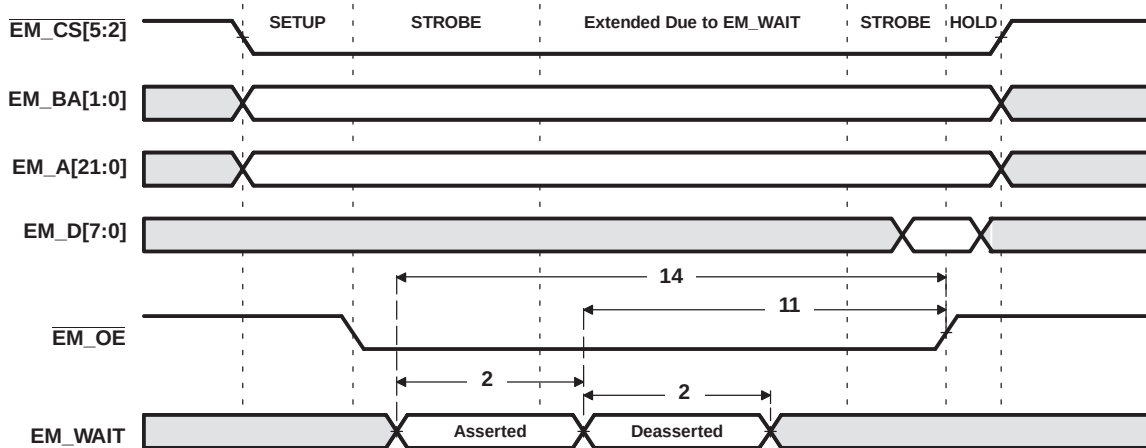
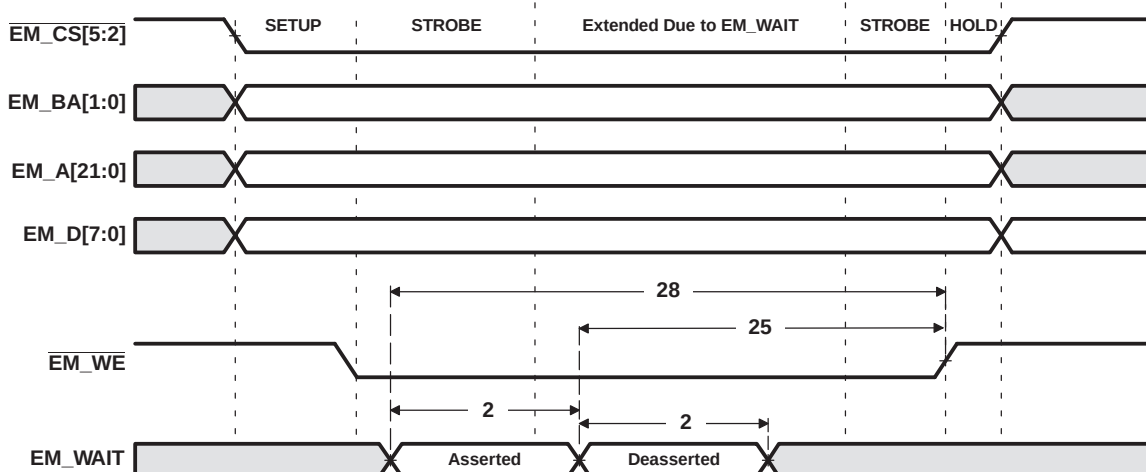

Figure 6-16. EM\_WAIT Read Timing Requirements
**Figure 6-17. EM\_WAIT Write Timing Requirements**
- (1) E = SYSCLK3 period in ns for EMIFA. For example, when running the DSP CPU at 600 MHz, use E = 10 ns.
- (2) Setup before end of STROBE phase (if no extended wait states are inserted) by which EM\_WAIT must be asserted to add extended wait states. Figure 6-16 and Figure 6-17 describe EMIF transactions that include extended wait states inserted during the STROBE phase. However, cycles inserted as part of this extended wait period should not be counted; the 4E requirement is to the start of where the HOLD phase would begin if there were no extended wait cycles.